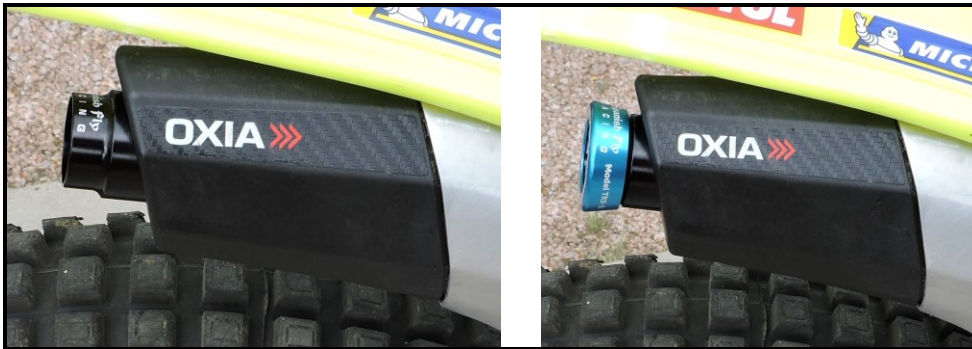

Figure 7-Adapter installed (Left), adapter installed with TRS-1 spark arrester (Right).
- 7) Apply silicone sealant to the surface of the end cap that will interface with the silencer body, this will act as an assembly lubricant & help seal the gap between the two parts. Slide end cap over the adapter & begin assembly by introducing the lower edge of the end cap (Ref. white arrow in Figure 7) into the silencer body. Tap lightly with a rubber mallet at the top end of the end cap to persuade the top edge of the end cap into the silencer body. If the bike is new and the end cap has not been exposed to many exhaust heat cycles; using a heat gun to warm up the inside of the end cap where it meets the adapter will aid in assembly.
- 8) Re-install the three endcap screws, final installation should look like Figure 7 below. Now smile & go ride a section!